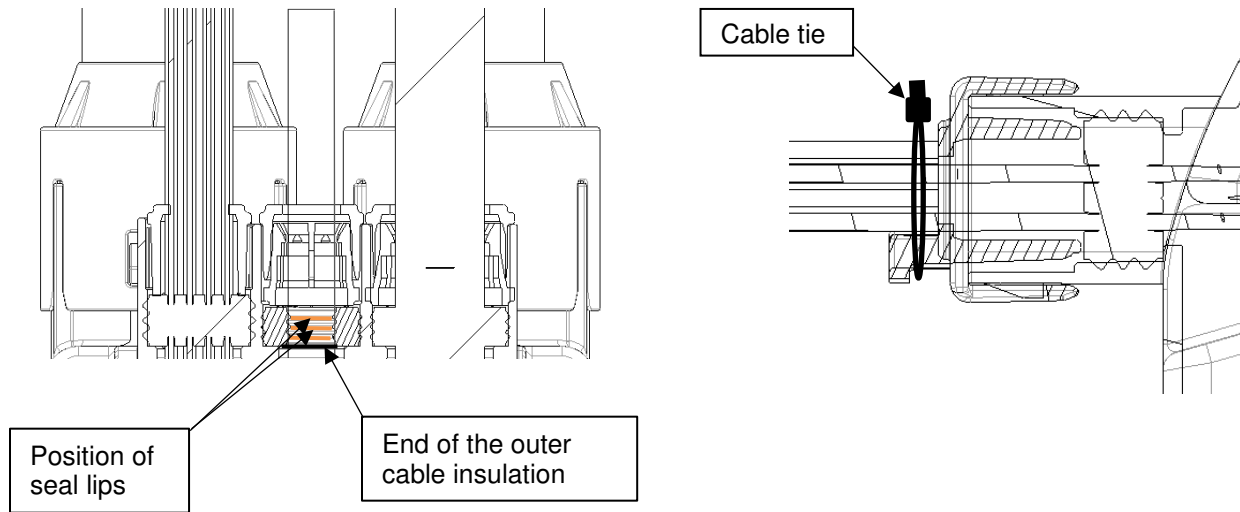

Figure 36a – PE seal lips
**ATTENTION:** Ensure that the AC cable is well positioned in the SEAL, that all seal lips are safely placed on the outer isolation of the cables. (Figure 36a)
Push the AC, PE and SIGNAL COVER over it and snap it on the CABLE EXIT COVER WITHOUT AC 2390858-1 OR 2390858-2 WITH AC. Ensure that both hooks are correctly engaged (double audible click), see Figure 36a.
Place a CABLE TIE, (Black, 2.5 mm wide, 1 mm thick, 100 mm long, min. tensile strength: 80N) around the single wire signal cables and the bridge at the SIGNAL COVER and pull tight, see Figure 36a.